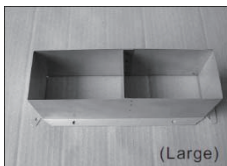

Fig. 4h
- h. Install the 3-1/4" x 10" rectangular rear vent outlet adaptor. **(Fig. 4h – 4i)**